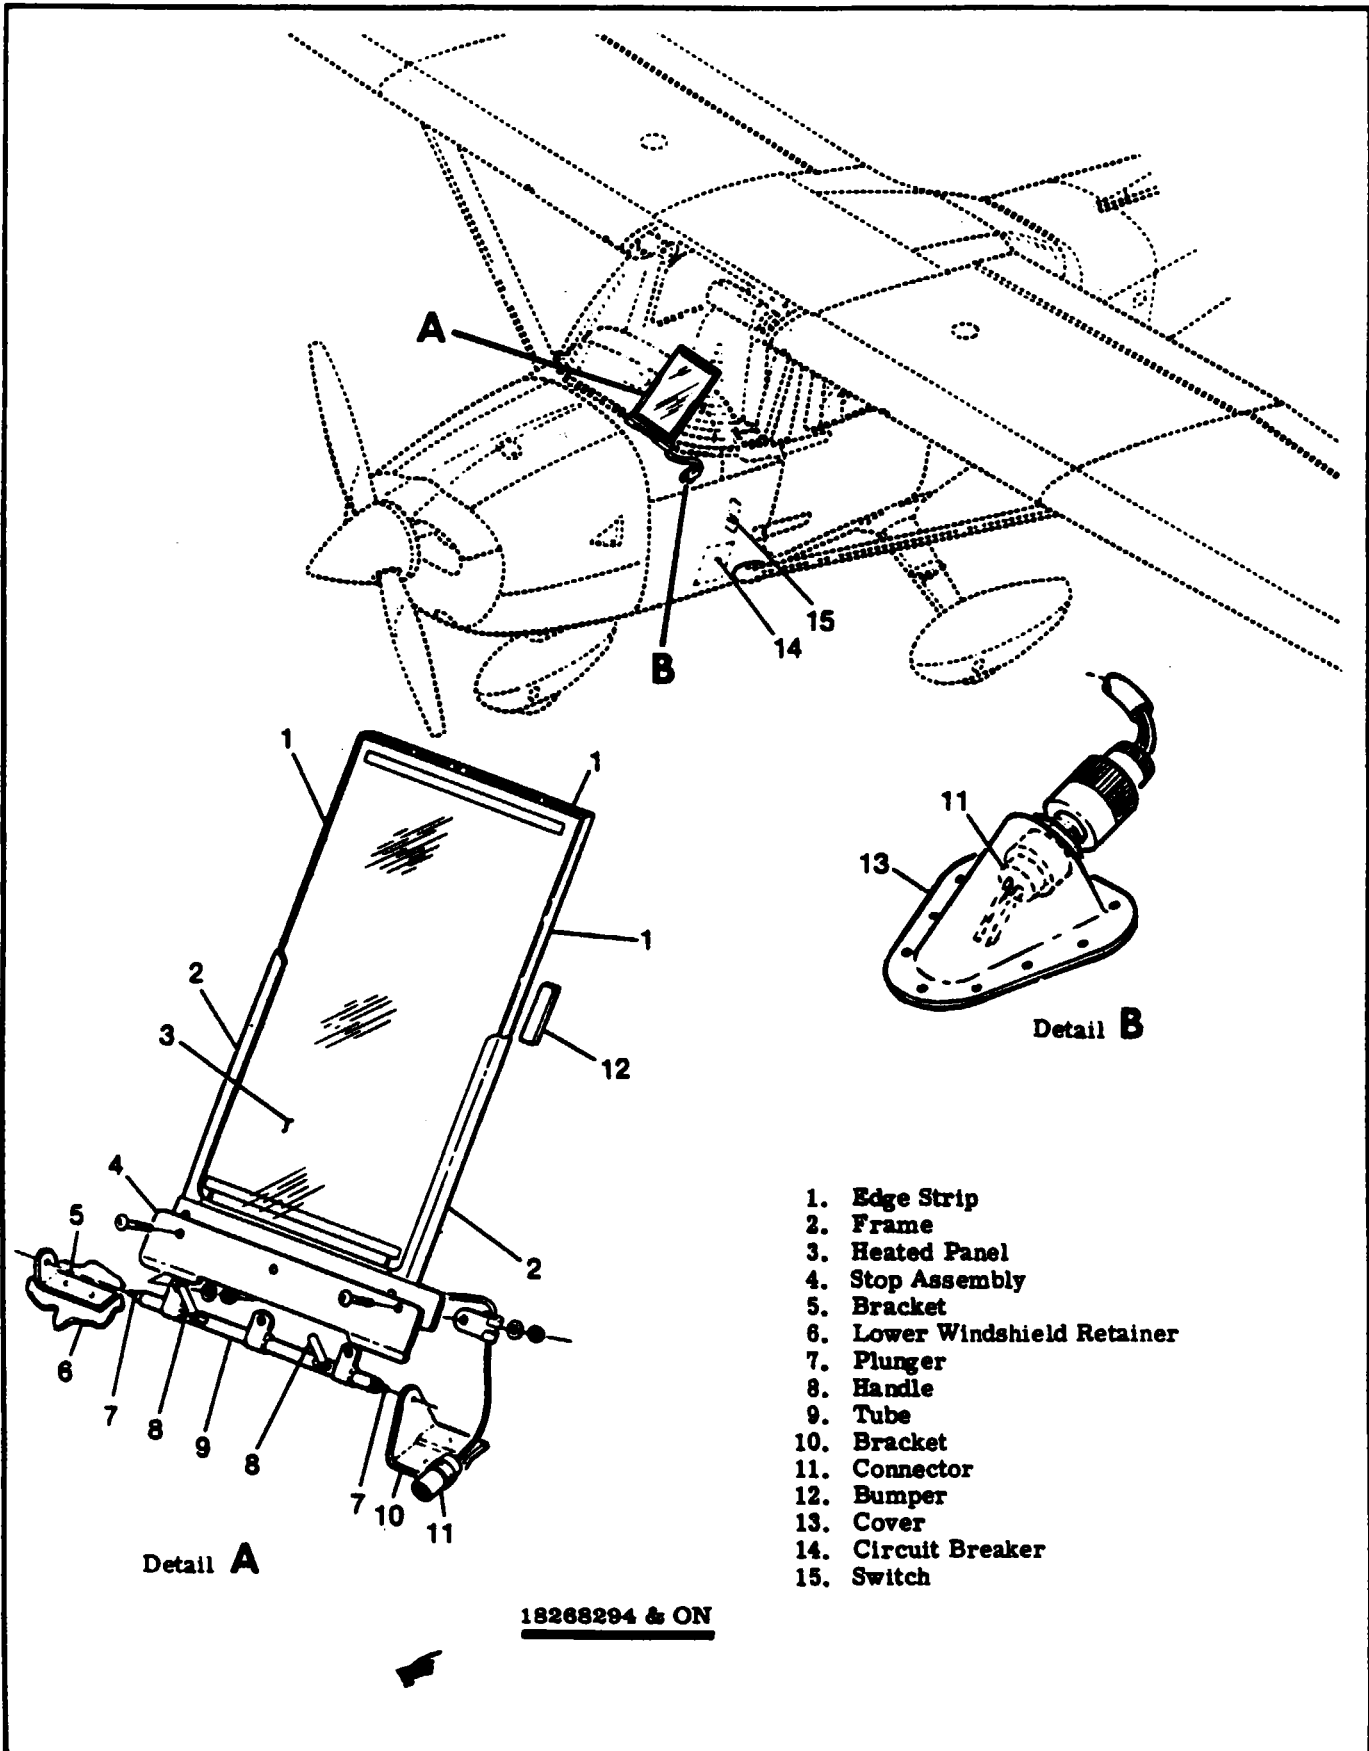

Figure 14-5. Windshield Anti-Ice Installation
14-54. HEATED WINDSHIELD PANEL. (See figure 14-5.)
14-56. REMOVAL AND INSTALLATION. (See figure 14-5.) Panel removal is accomplished by disconnecting connector (11) inside cover (13) and moving spring-loaded handles (8) in tube (9) toward center of panel,